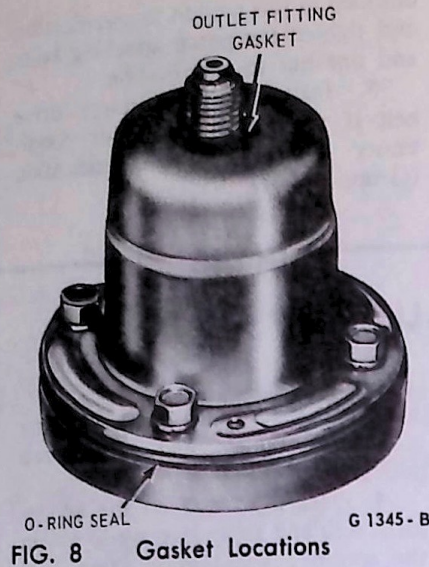

FIG. 8 Gasket Locations
1. Install a new gasket on the outlet fitting and a new reservoir O-ring seal on the pump housing plate (Fig. 8). The old gasket and seal should never be re-used.